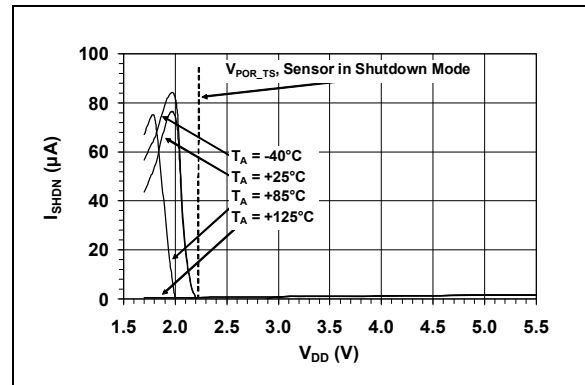

FIGURE 2-15: Shutdown Current vs. V_{DD} .
- Note 1:** For V_{DD} ranges of 1.8V to the temperature sensor V_{POR_TS} , the temperature sensor becomes partially biased and consumes 80 μA (typical) until the sensor POR resets and acknowledges a shutdown command. See Figure 2-15.
- Note 2:** For V_{DD} ranges of 1.8V to the temperature sensor V_{POR_TS} , the temperature sensor becomes partially biased and consumes 80 μA (typical) until the sensor POR resets and acknowledges a shutdown command. See Figure 2-15.